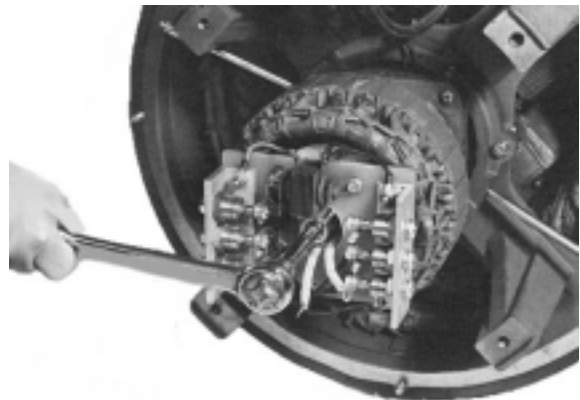

Figure 6-11
2. Remove the cap screw and Belleville washer that holds the exciter (rotor) armature to the generator shaft. (Figure 6-11.)